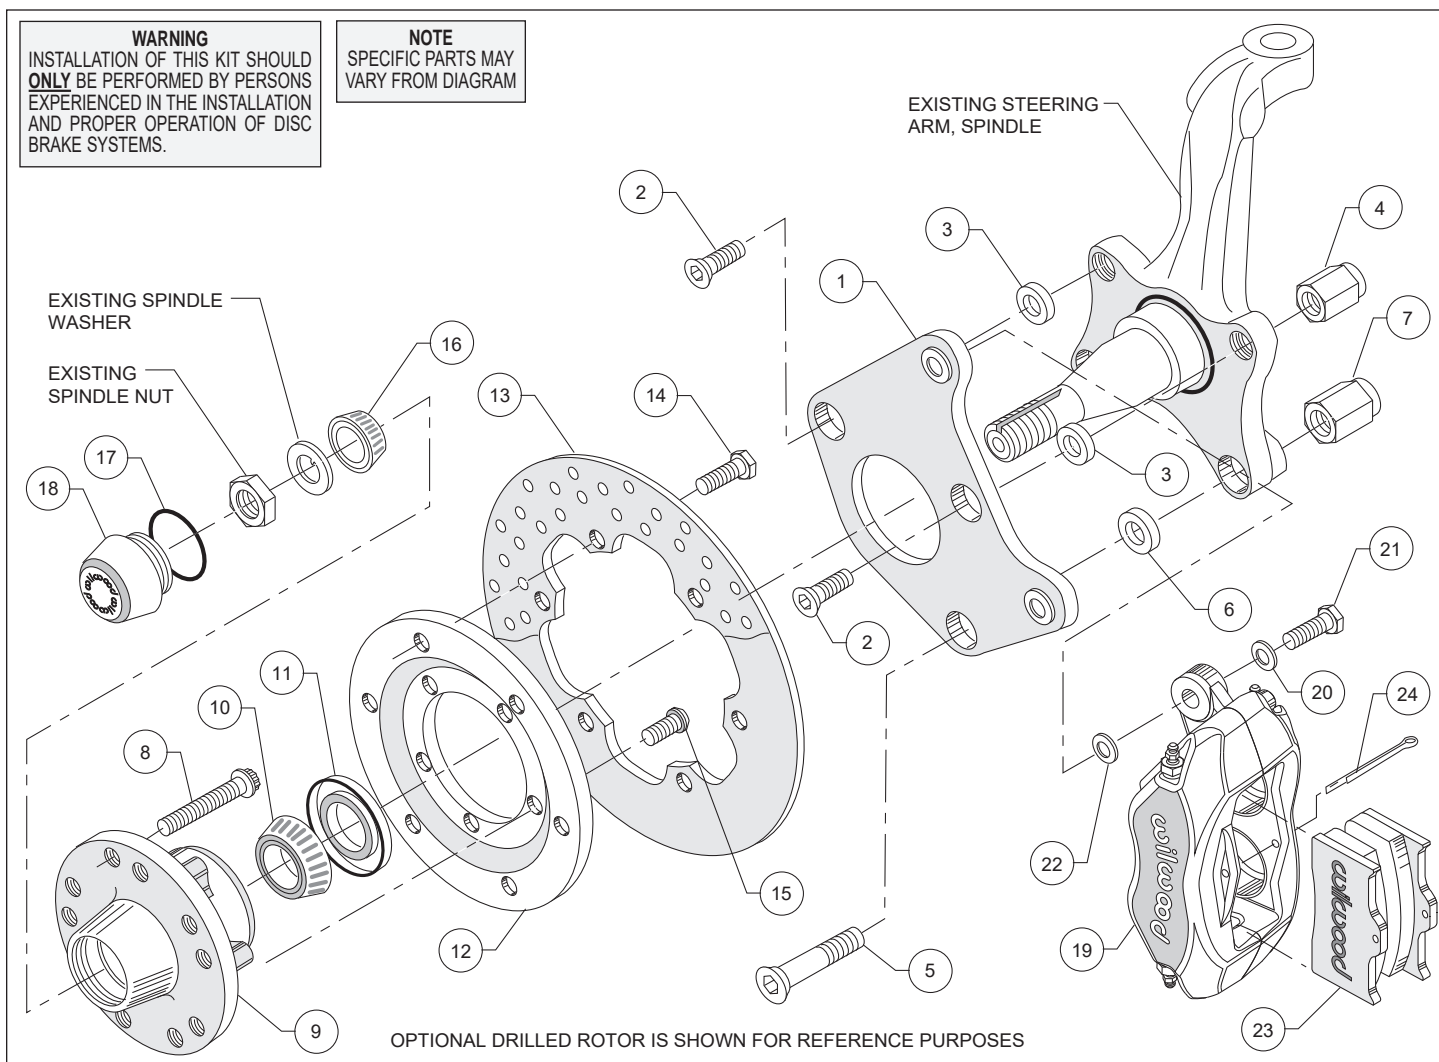

Figure 1. Typical Configuration, Drum Spindle
- Mount the adapter/rotor assembly (12/13) to the hub (9) using bolts (5) (finger tight), as shown in Figure 1. Using an alternating sequence, remove bolts one at a time, apply red *Loctite*® 271 to the threads, and torque to 45 ft-lb.